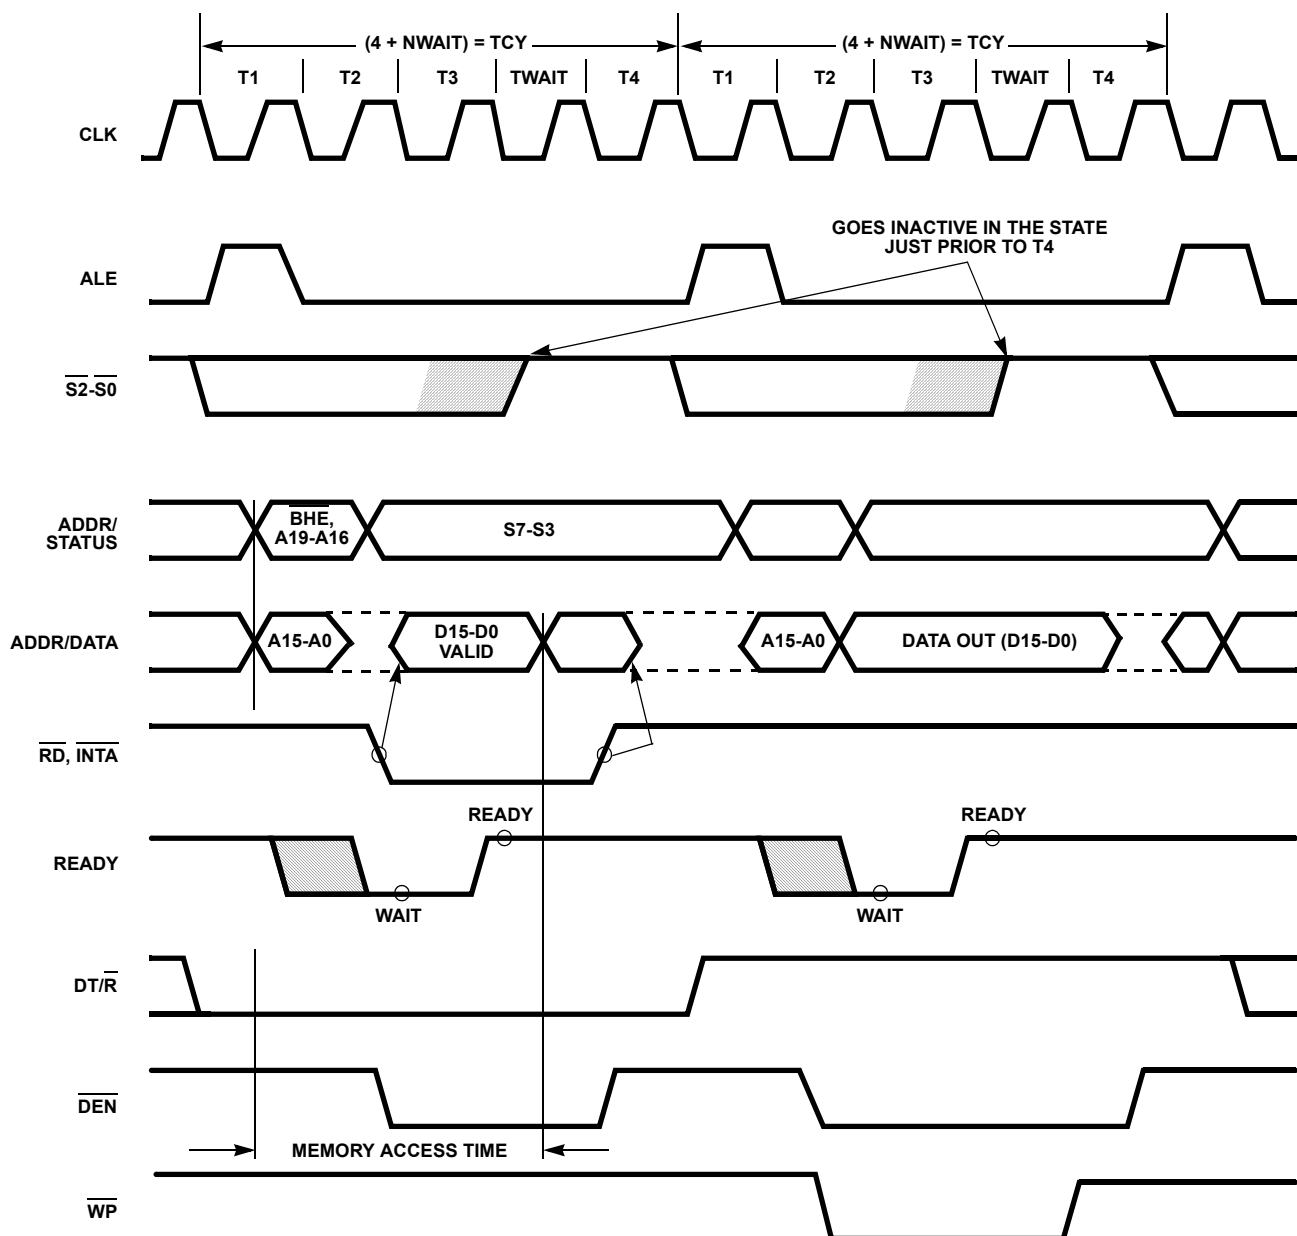

FIGURE 11. BASIC SYSTEM TIMING
Each processor bus cycle consists of at least four CLK cycles. These are referred to as T1, T2, T3 and T4 (see Figure 11). The address is emitted from the processor during T1 and data transfer occurs on the bus during T3 and T4. T2 is used primarily for changing the direction of the bus during read operations. In the event that a "NOT READY" indication is given by the addressed device, "Wait" states (TW) are inserted between T3 and T4. Each inserted wait state is the same duration as a CLK cycle. Idle periods occur between HS-80C86RH driven bus cycles whenever the processor performs internal processing.
Typical system configurations for the processor operating in minimum mode and in maximum mode are shown in Figures 14A and 14B, respectively. In minimum mode, the MN/MX pin is strapped to VDD and the processor emits bus control signals (e.g.  $\overline{RD}$ ,  $\overline{WR}$ , etc.) directly. In maximum mode, the MN/MX pin is strapped to GND and the processor emits coded status information which the 82C88 bus controller used to generate Multibus™ compatible bus control signals. Figure 11 shows the signal timing relationships.